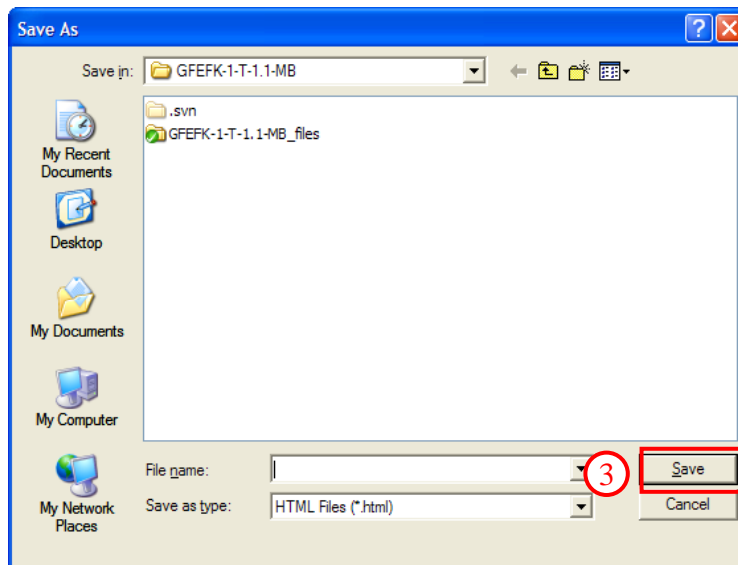

Figure 40. Save Report - Save As Dialog
3. A *Save As* dialog is displayed (Figure 40)